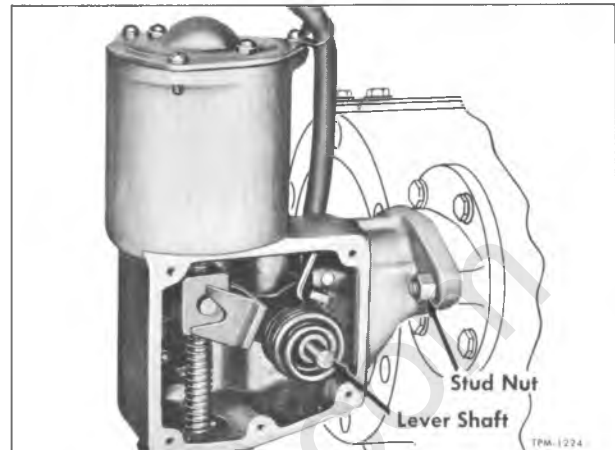

Figure 16—Shift Unit Cover Removed(Rockwell Axles)
2. Loosen shift unit-to-differential carrier stud nuts (fig. 16) to remove preload from shift unit spring.
4. Pull out lever shaft (fig. 16). Disconnect torsion spring from push rod, then remove spring and spring winding lever.